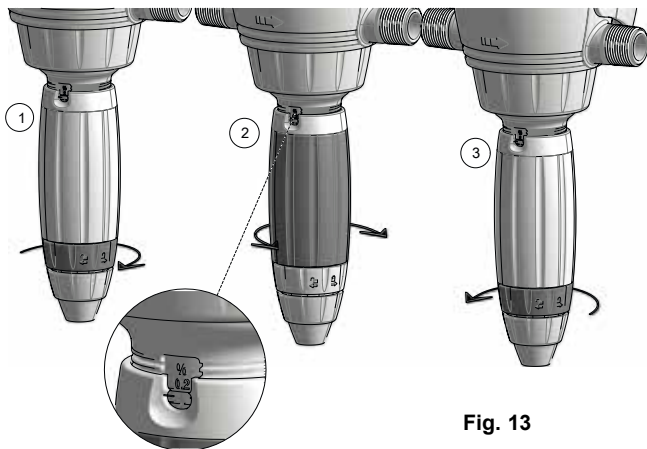

Fig. 13
- Unscrew the dosing locking nut (**Fig. 13**).